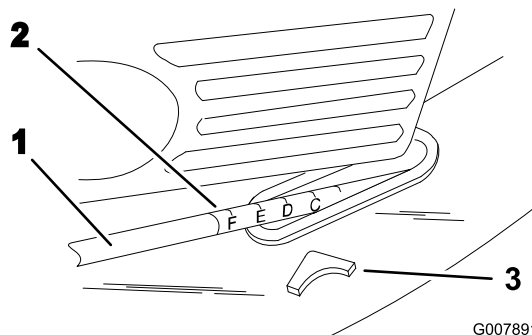

Figure 17
3. Lift up or press down on the handle, and use the pointer and the cutting height setting on the link rod to set the lawn mower to the desired cutting height (Figure 17).